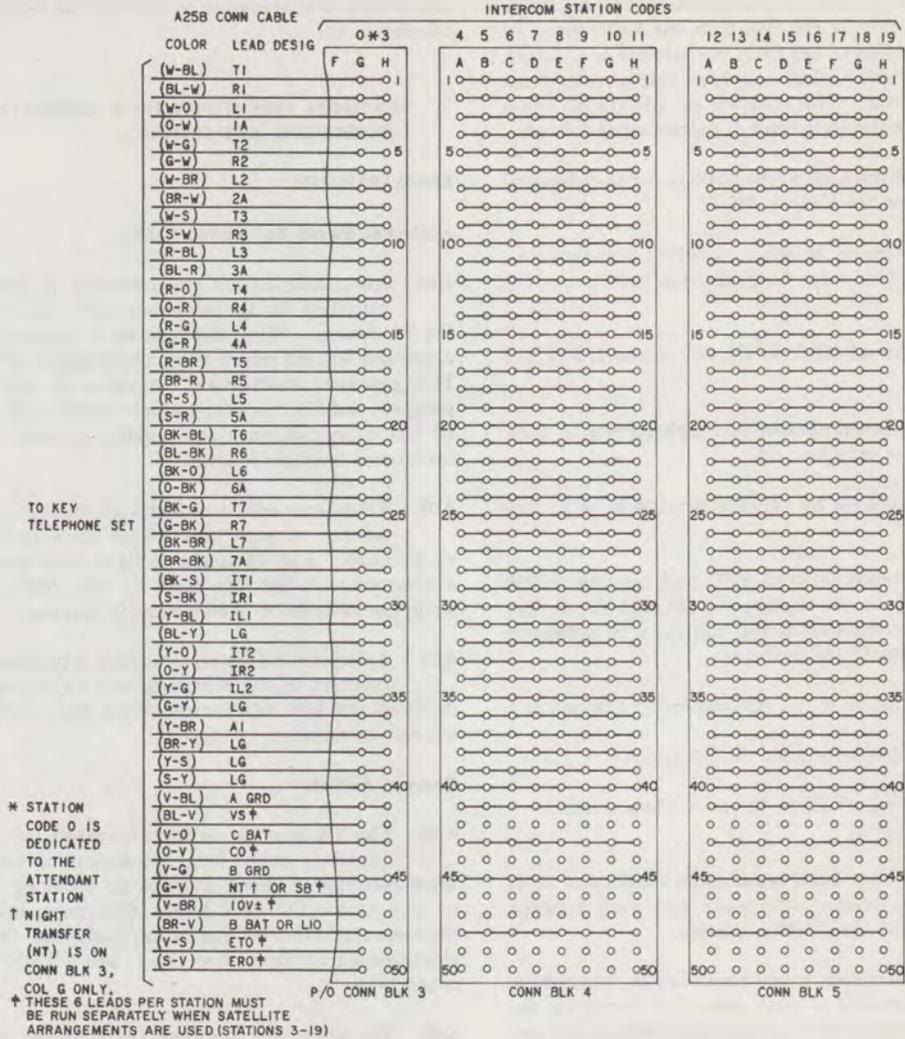
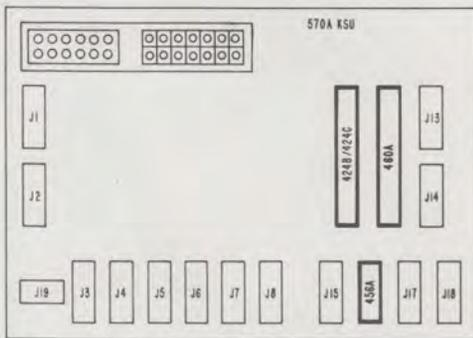

Fig. 25—Station Connections
Fig. 27—Location of 424B/424C, 456A and 460A KTUs, 2-Path Intercom
- (8) Terminate the station cables. Cut down the A25B connector cables on connecting blocks 3, 4, and 5 as shown in Fig. 25. Intercom station code 0 (attendant station) is terminated on column G of connecting block 3. Intercom station code 3 is terminated on column H of connecting block 3, and station codes 4 through
19 are terminated on columns A through H on connecting blocks 4 and 5 as shown in Fig. 25. **A direct cable run to any station may not exceed 667 feet of 24-gauge cable.**
- One 25-pair cable to provide the 44 leads common to all station (Fig. 25).
Provide six additional leads per satellite station (Fig. 25)
4.22 Intercom is factory-wired, requiring the 424B (Fig. 13) or 424C (Fig. 14), 456A (Fig. 19), and 460A (Fig. 21) KTUs furnished with the 570A KSU. See Fig. 27 for KTU locations in the KSU. The intercom code of a station is determined by the column on connecting blocks 3, 4, or 5 on which the station cable is terminated. See 3.05 (8) and Fig. 25.